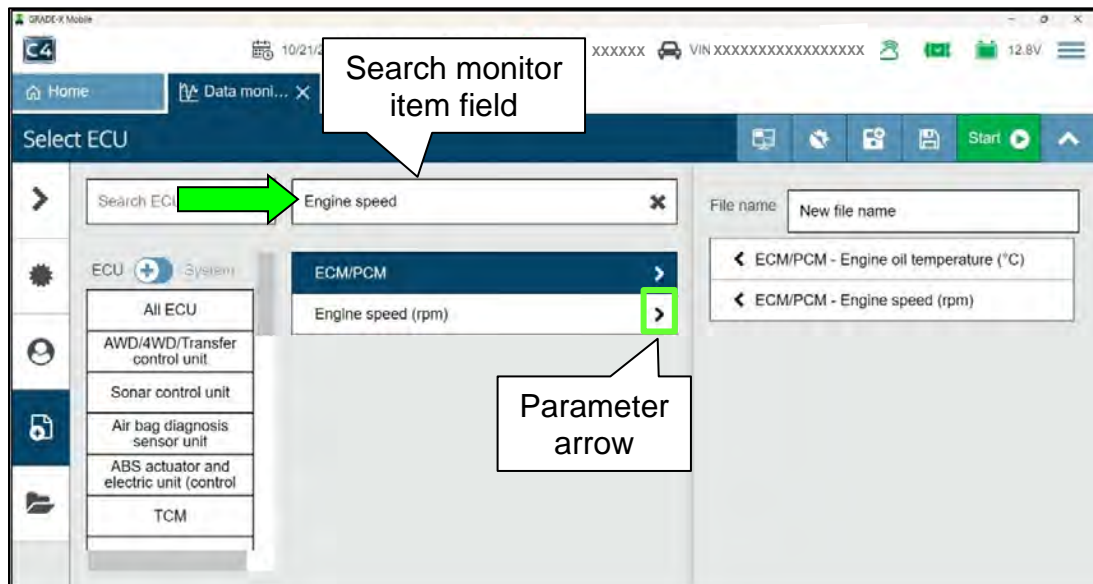

Figure 39
43. Enter the following parameters as shown in Figure 39.